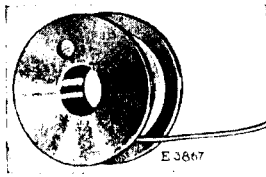
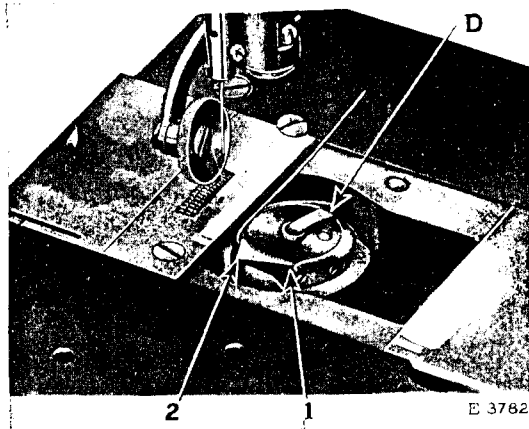

Fig. 4. Direction of Thread on Bobbin
Fig. 5. Bobbin Case Threaded
Draw out the slide plate at the right of the needle in the bed of the machine. Insert the finger nail of the forefinger under the latch (D, Fig. 5), raise the latch and lift out the bobbin.
(see Fig. 4) and place it on the centre stud of the bobbin case, then push down the latch (D) as shown in Fig. 5. Draw the thread into the slot (1, Fig. 5), under the back of the projection (2, Fig. 5), leaving a loose end of thread about two inches long above the slide. When closing the slide plate, leave just enough space for the thread to pass through.